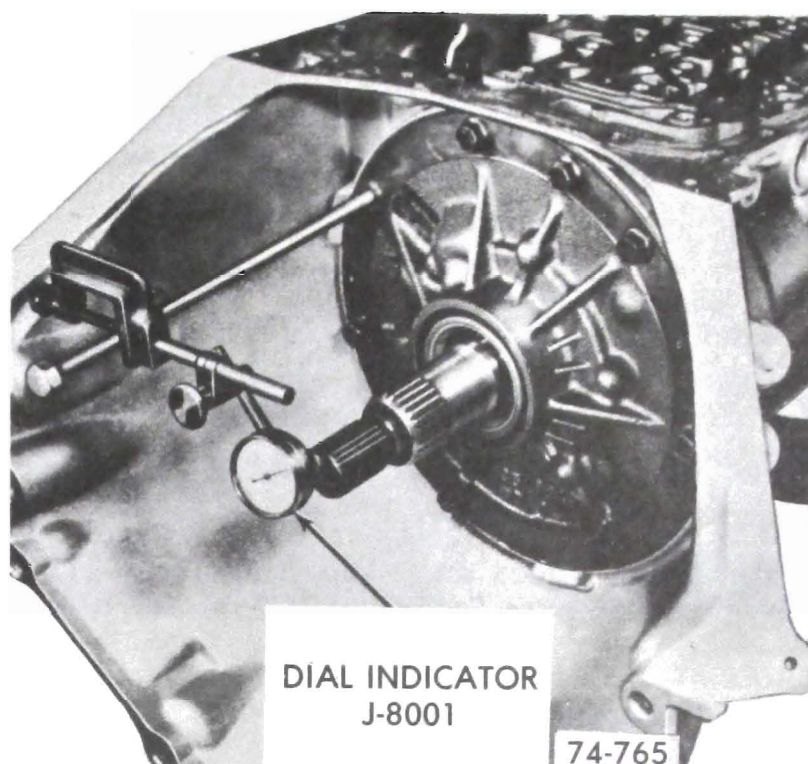

Figure 76-260
23. Check front unit end play as follows: See Figure 76-260.